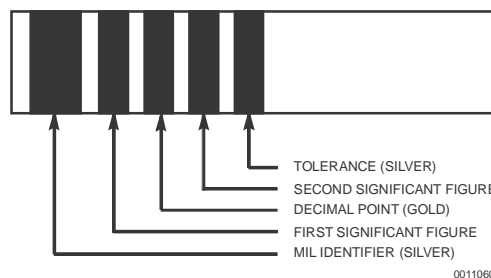
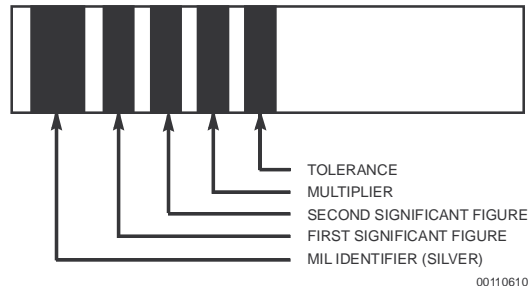

Figure 4 Color Coding for Coils Less Than 10 Microhenries
Figure 5 Color Coding for Coils 10 Microhenries and Larger
- 1.4 Cylindrical choke coil color code. Cylindrical choke coils are marked with five color bands, as shown in Figures 4 and 5. The first band is silver, double the
width of the other bands, and identifies the coil as a military component. The next three bands indicate the inductance in microhenries, and the fifth band indicates the tolerance in percent. The color code is interpreted as indicated in Table XIX. When either the second or third color band is gold (Figure 4), this band represents the decimal point for inductance values less than 10 microhenries, and the other two bands of the middle three bands represent significant figures. For inductance values of 10 microhenries or more (Figure 5), the second and third bands represent significant figures, and the fourth band represents the multiplier.